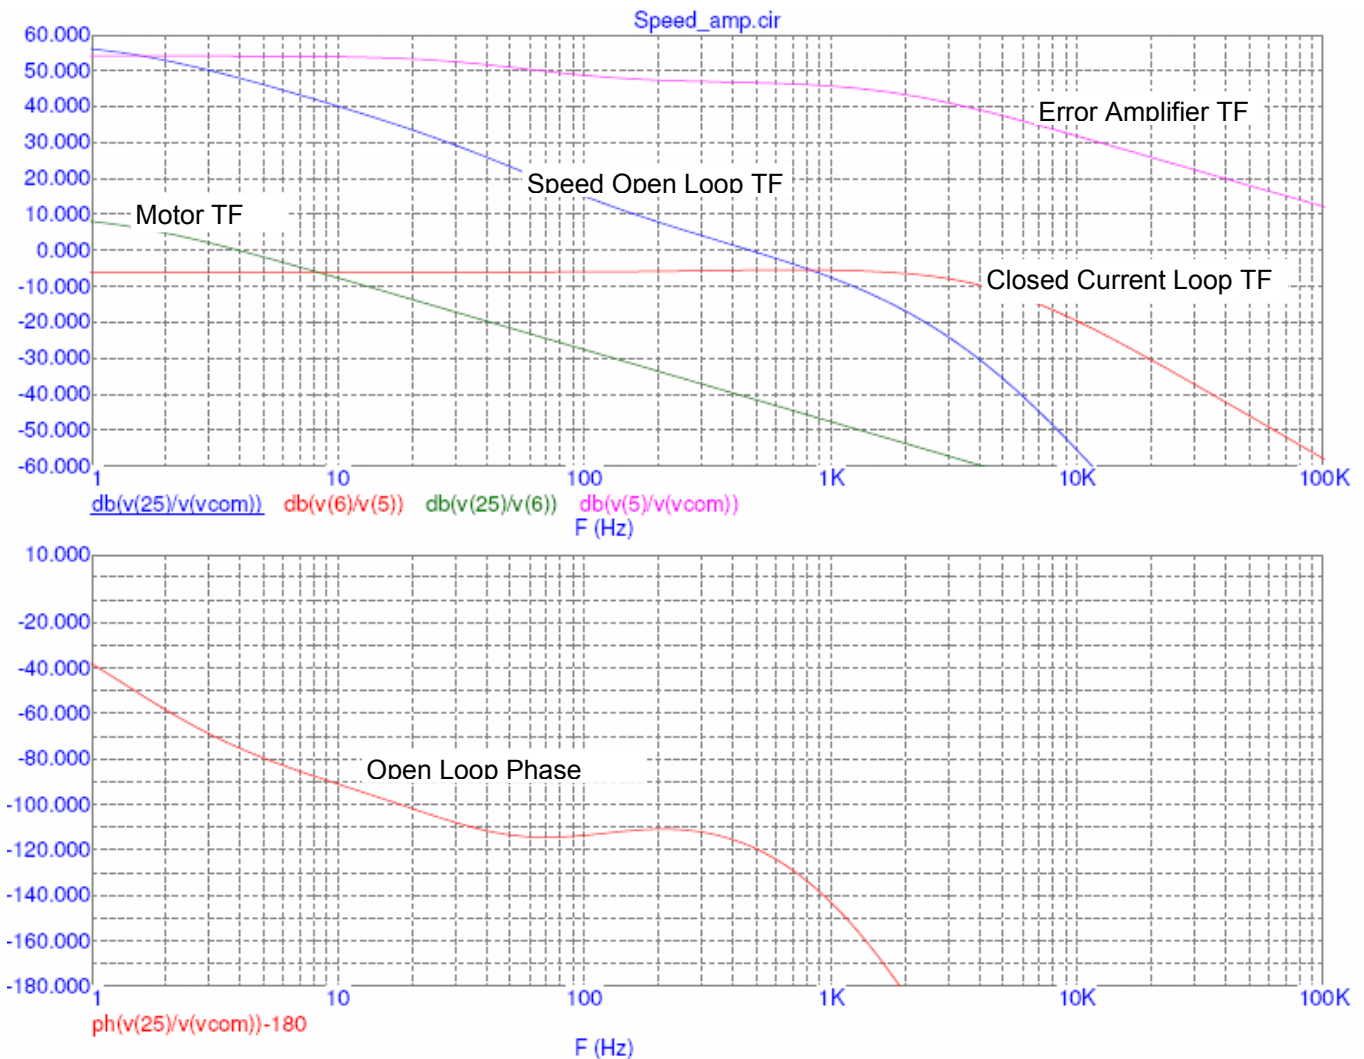

Fig.18 : Speed Loop Bode Plots
- Plot the speed loop Bode Plots as shown in Fig. 18.